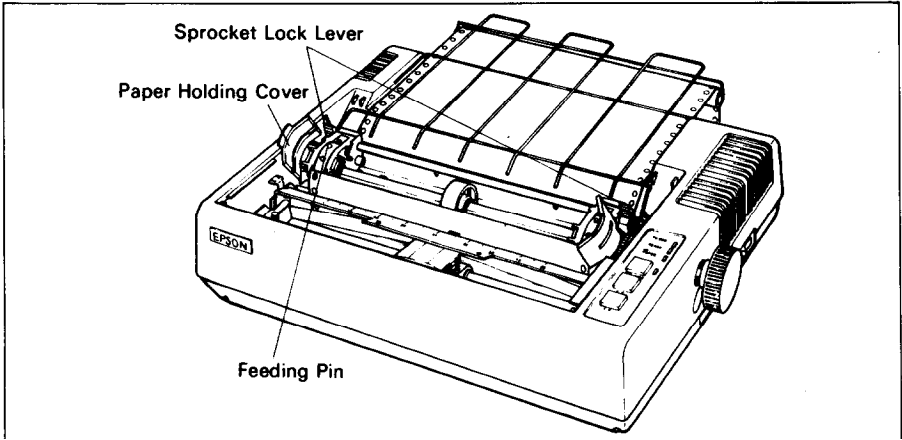

Fig. 13 Raising of Sprocket Lock Levers
STEP 7. Raise the two sprocket lock levers to loosen, and adjust the sprocket pin position to the paper width. (See Fig. 13.)